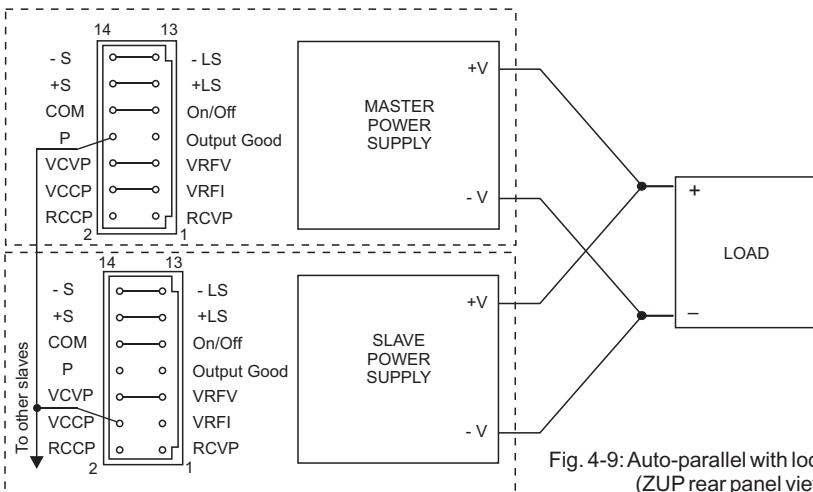

Fig. 4-9: Auto-parallel with local sensing
6. **Connection to the Load:** At auto-parallel mode, power supplies can be connected in local or remote sensing. Refer Fig. 4-9, 4-10 & 4-11 for typical connections of paralleled power supplies. The figure below shows connection of two units, however the same connection method applies for up to 5 units.